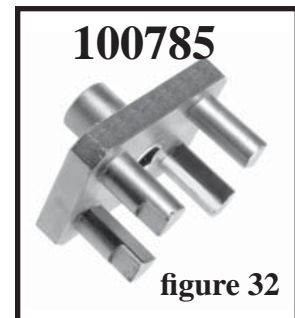

figure 32
15.6.3.3 When removing the valve, it is recommend that you use valve tool VAL1-10. (figures 32 and 33)
15.6.4.6. Reinstall the valve into the cylinder if it was removed, using valve tool VAL1-10 (figure 32). This has a non-critical torque of 45 foot pounds.